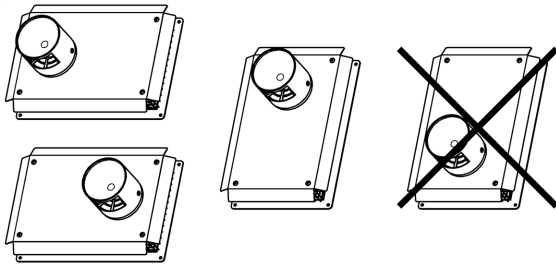

Figure 25 Allowed SST installation orientations
- » Install the SST with the vent and intake pipes horizontally beside each other or vertically with the vent pipe on top (see Figure 25 ). The vent pipe cannot be installed below the intake. The vent cap must be installed with the openings directed up and down (see Figure 25 ), and not side to side.